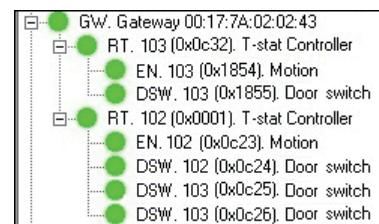

Figure C20
16. See the final **Online Network** tree in Figure C20.
When steps 1-4 below have been performed, the **Online Network** tree in SysMon will typically look as in the example in *Figure C20*: